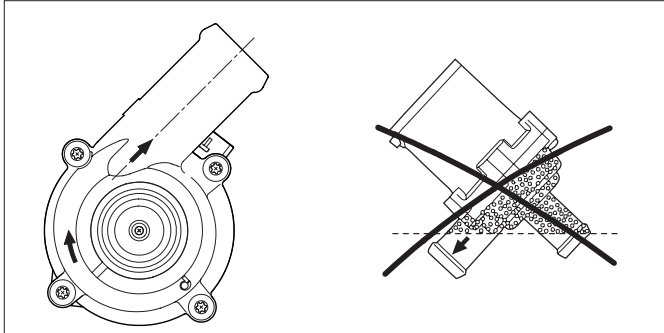

Fig. 11: Coolant pump installation position
- ▶ Choose the installation position of the coolant pump such that the coolant pump is self-bleeding. The air volume contained in the coolant pump must be able to escape upwards independently via the connection pieces. See Fig. 11.